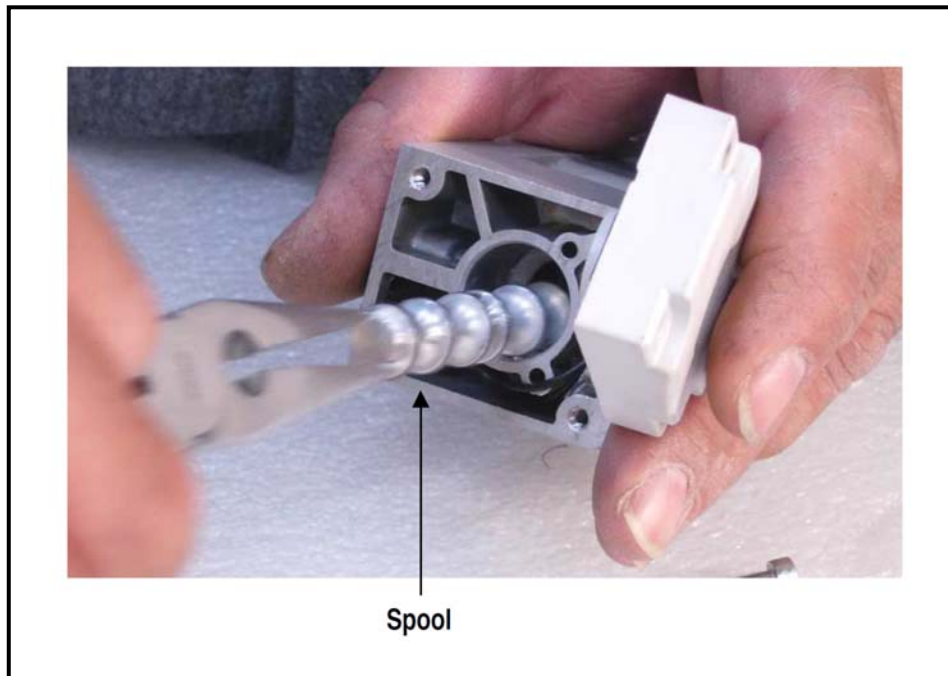

Figure 18: Valve Spool Replacement with Needle-nose Pliers
4. To change valve spool (Figure 18):